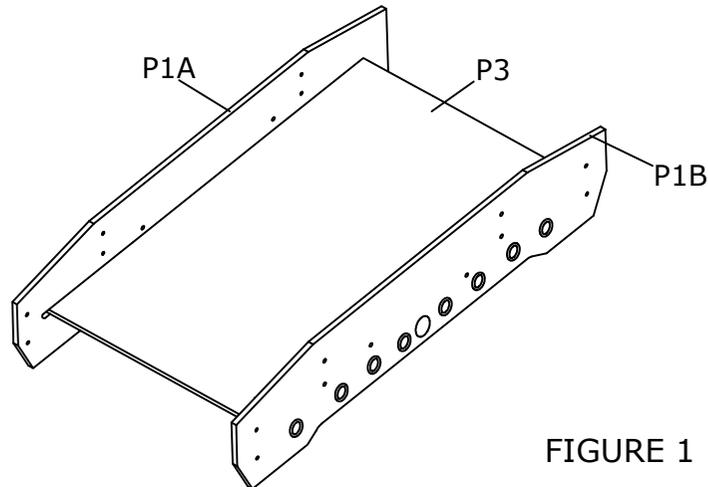

FIGURE 1
1. Slide playfield **P3** into the groove on the side panels **P1A/P1B** with graphics facing down. See **figure 1**.